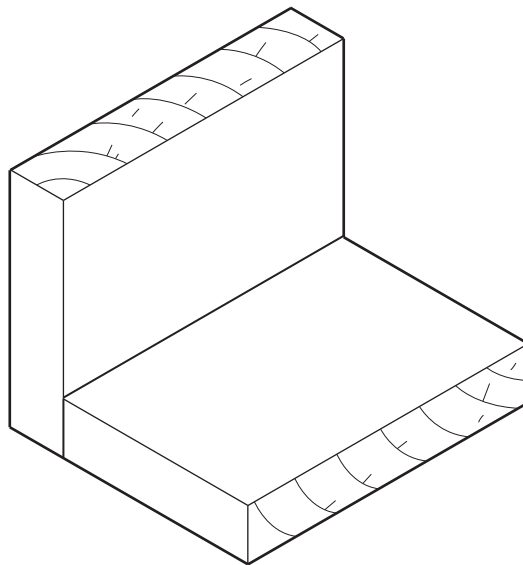

Fig. 3.1
- 3 Fig. 3.1 shows two pieces of hardwood that are to be joined by means of a KD (Knock-Down) fitting.
Add sketches and notes to Fig. 3.1 to show how a suitable KD (Knock-Down) fitting could be used to join the hardwood together.